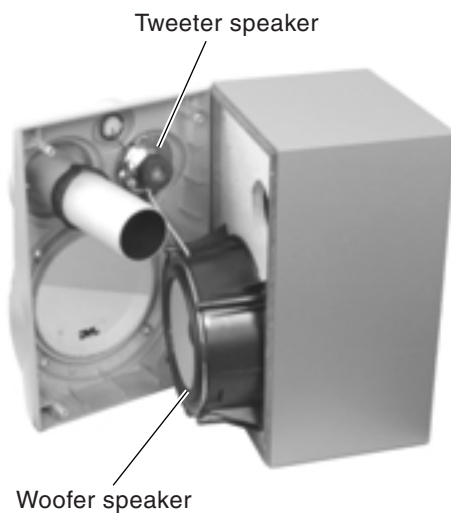

Fig.2
## ■ Removing the CD tray assembly (See Fig.2~4)
1. Remove the front panel assembly. (See Fig.2~4)
5. From the T.bracket section "b" and clamber base section "c" , remove both of the edges fixing the rod(See Fig.2 and 3).